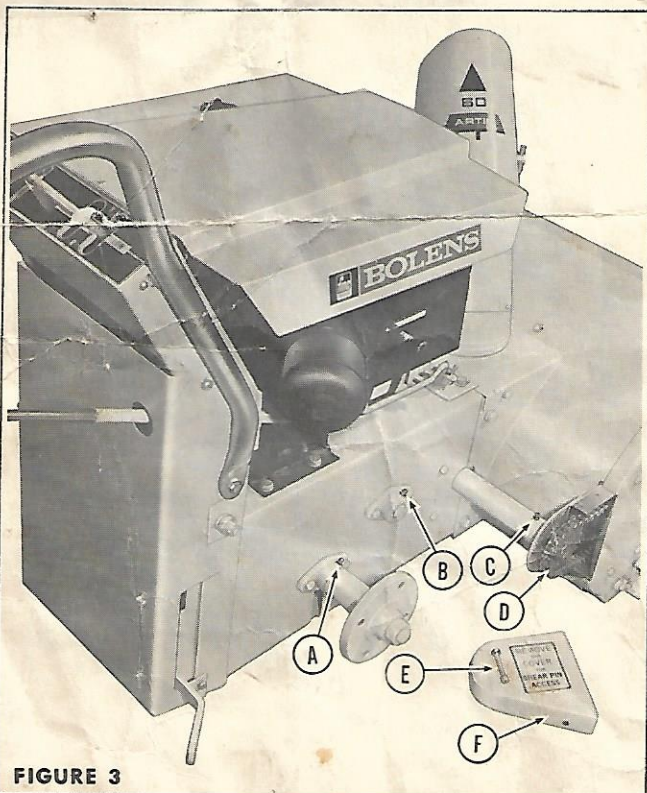

FIGURE 3
The sprocket on the gear case shaft (D-Fig. 3) which drives the rotor is secured to the shaft by a shear bolt (E) and lock nut which protects the mechanism against sudden shock. NOTE: An extra shear bolt is supplied with this unit which can easily be installed after removing chain guard cover (F).
This unit is designed with sealed bearings and packed gear cases which reduces the lubrication requirements to a minimum. The only regular lubrication necessary are the grease fittings on the axle (A-Fig. 3), one on each side of unit, the counter shaft (B), the gear case shaft (C) and all links and rod pivot points which should be oiled with a light oil at regular intervals.